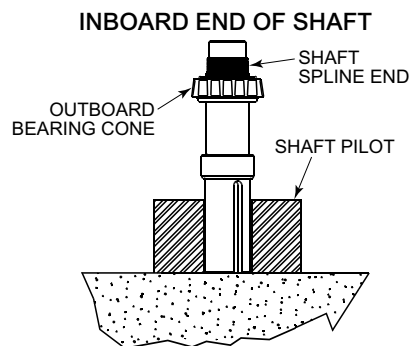

Figure 6.3.4.1 Installation of Inboard and Outboard Bearing Cups
4. Place the outboard bearing cone squarely on the inboard end of the shaft with the smaller diameter of the bearing facing inboard; reference **Figure 6.3.4.1**.